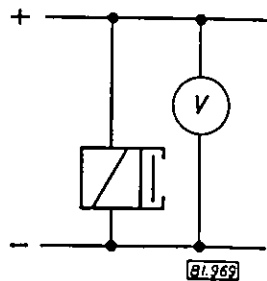

Fig. 8 Voltage measurement
- a) Check whether requisite voltage of 24 V + 10% is applied to clutch (Fig. 8).